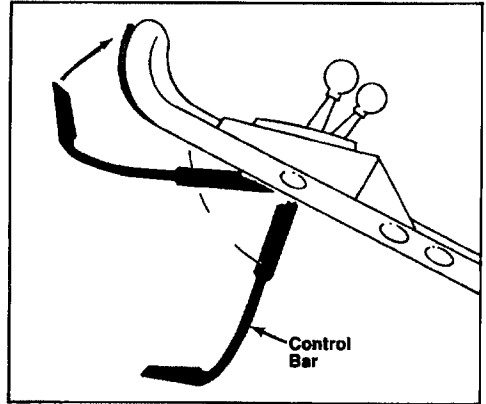

Figure 25
2. Push the control bar down to the lowest position (Fig. 25). This "cocks" the mechanism prior to engaging the blade.
3. Lift the control bar to the normal "blade engaged" position, about 1" below the handle (Fig. 25). The "fan" noise and bag inflation indicate that the mower blade is engaged and rotating.
6. Push the control bar down to its lowest position, cocking the mechanism (Fig. 25).